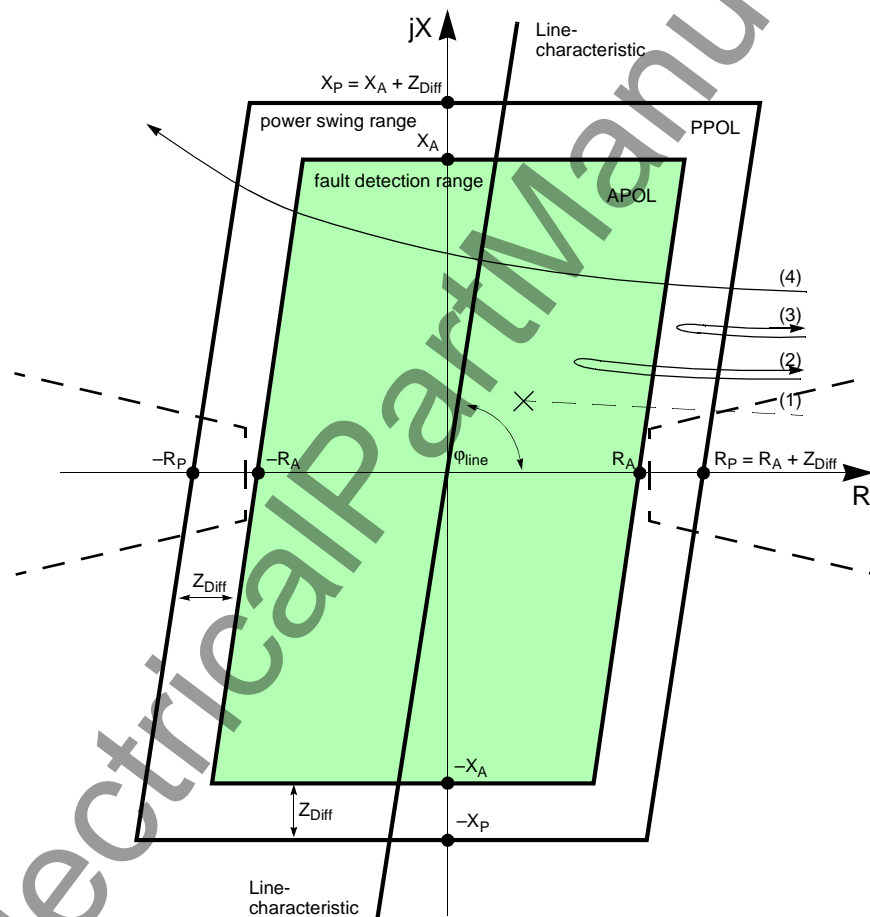

Figure 6-41 Pick up characteristic of the power swing detection for a polygon.
impedance vector enters the power swing measuring range PPOL (refer to Figure 6-41). The fault detection range APOL is made up of the largest set values for R and X of all the activated zones. The power swing zone has a minimum distance Z_{diff} of 5 Ω (at $I_N = 1$ A) or 1 Ω (at $I_N = 5$ A) in all directions from the fault detection zone. In the event of a short-circuit (1), the impedance vector abruptly changes from the load condition into this fault detection range. However, in the event of a power swing, the apparent impedance vector initially enters the power swing range PPOL and only later enters the fault detection range APOL (2). It is also possible that a power swing vector will enter the area of the power swing range and leave it again without coming into contact with the fault detection range (3). If the vector enters the power swing polygon and passes through it leaving on the opposite side, then the sections of the network seen from the relay location have lost synchronism (4): The power transfer is unstable.
When the impedance vectors identified by the power swing detection exit the power swing characteristic PPOL, the sign of the R components in the vectors are checked to see if they are the same on exiting and entering the characteristic. If this is the case, the power swing process is inclined to stabilize. Otherwise, the vector passed through the power swing characteristic (loss of synchronism, case (4) in Figure 6-41). The device issues a three-pole trip command, thereby isolating the two system segments from each other. Power swing tripping is alarmed.